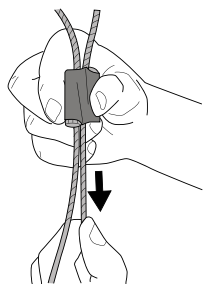

FIGURE 15
- 4) Once the cable is looped around the unistrut, thread the remaining cable side through the other side of the cable hanger and pull through. (See **FIGURE 15**)